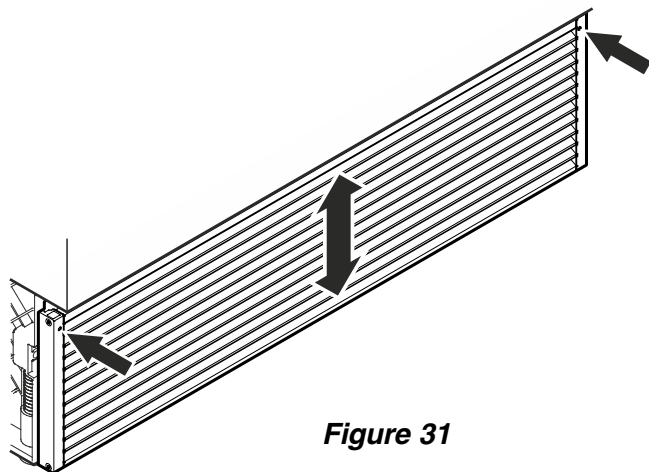

**Figure 30**
## 7. Install the ventilation grille (**Figure 30**).
The grille has bolts on the inside (see detail in **Figure 30 a**). These bolts must be inserted into the holes of the supports.
**Figure 30 a**